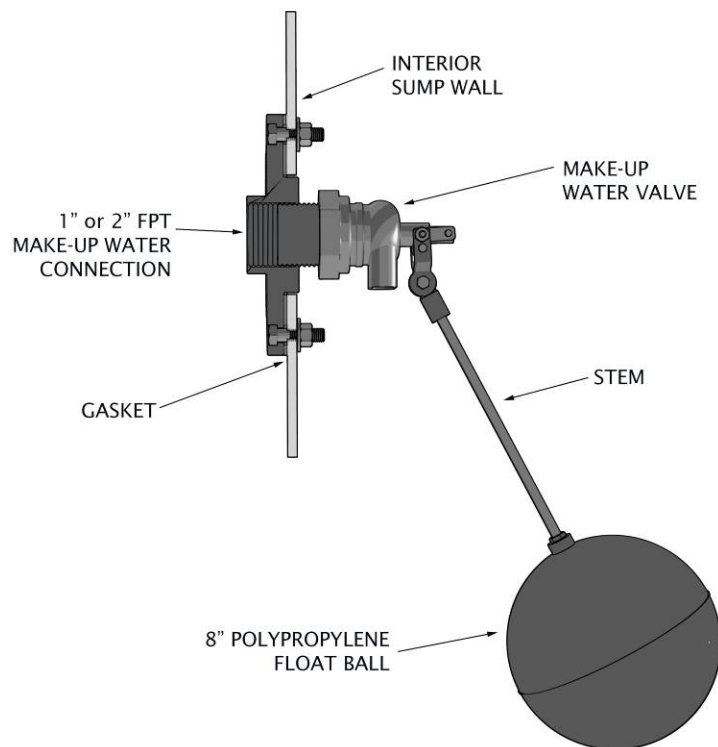

Figure 56 – Mechanical Float Valve
4. Adjust float for desired water level (refer to Figure 56 for details), then tighten adjusting bolt.